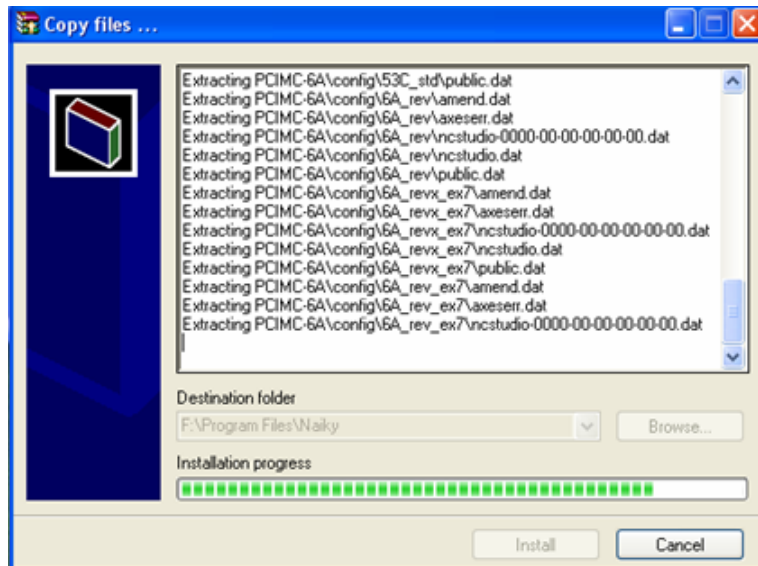

Fig. 2-4 Software installation progress
- Click [OK] to continue the next step. See Fig. 2-4.